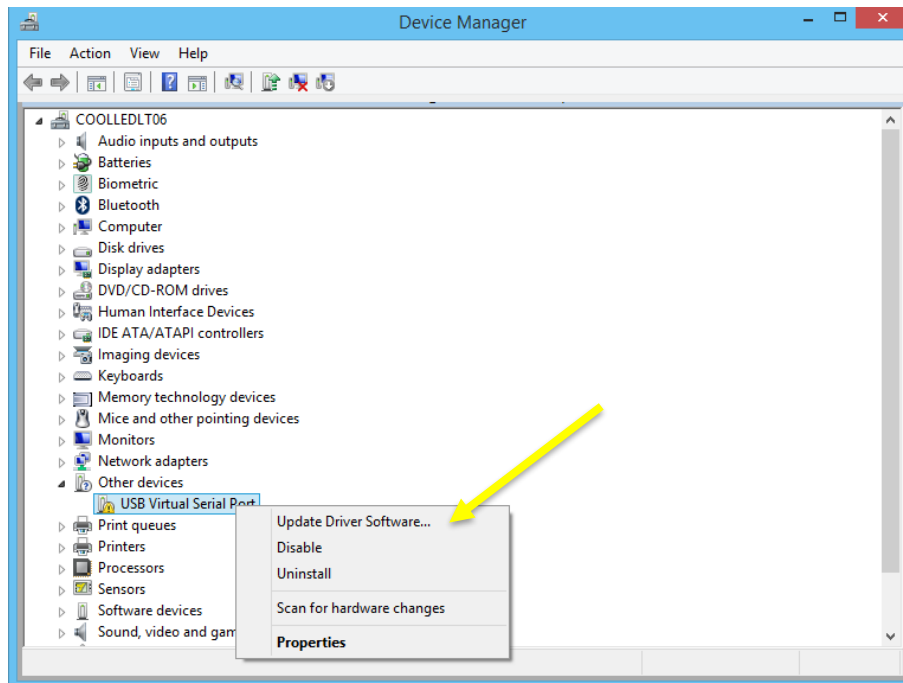

Figure 2
4. Right-click on *USB Virtual Serial Port* and select the *Update Driver Software...* from the dropdown menu (see Figure 2).